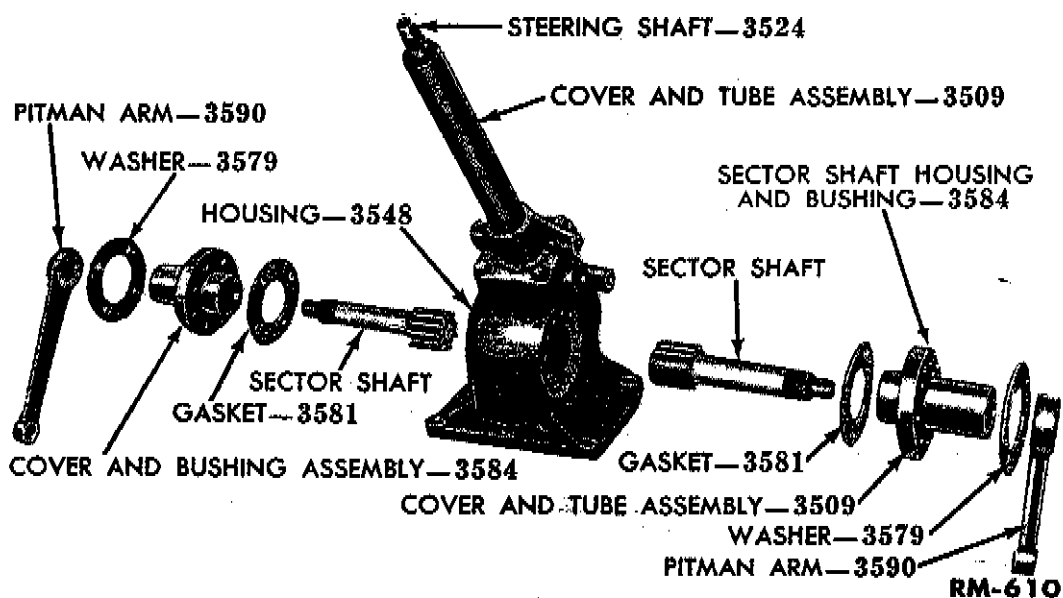

Fig. 3—Sector Shafts; Disassembled
(4) **STEERING GEAR HOUSING.** Replace the steering gear housing (fig. 3) if it is cracked or otherwise damaged. Replace the lower steering shaft bearing race if it is scored or pitted.
(5) **PITMAN ARM.** Replace a pitman arm (fig. 3) that has been damaged in any way.
(7) **SECTOR SHAFT.** Replace a sector shaft (fig. 3) if the teeth or bearing surface are excessively worn.